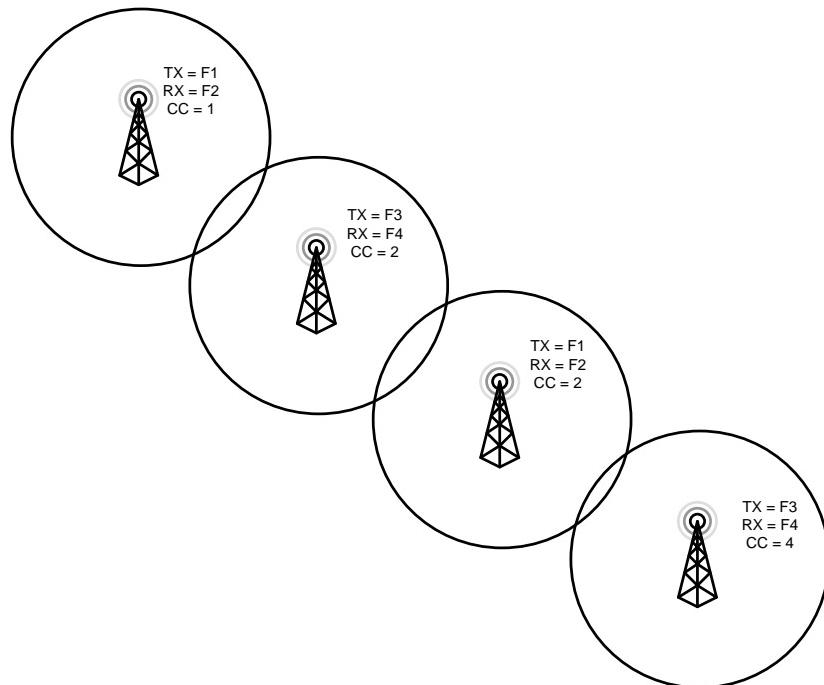

Figure 2-10 Corridor Coverage
3. **Corridor Coverage** – This type of coverage consists of sites that are placed along various transportation passages, such as roads, train tracks, shore lines, rivers and canals. In such site configuration a pair of adjacent sites overlaps in RF coverage; refer to Figure 2-10. The non-overlapping sites may reuse the frequencies. A radio user transitions from one site to another within an hour.